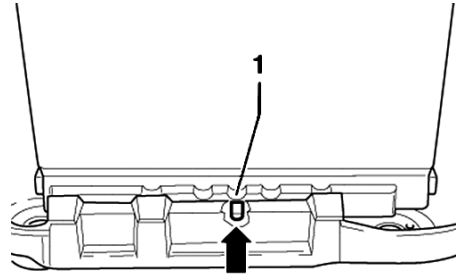

Fig. 8 Battery installation
1. Install battery so battery carrier lug (arrow) engages in foot strip cut out (1), **Fig. 8**. It must not be possible to move battery to lefthand or righthand sides.
1. Install battery so battery carrier lug (arrow) engages foot strip cut out (1), **Fig. 8**. It must not be possible to move battery to lefthand or righthand sides.